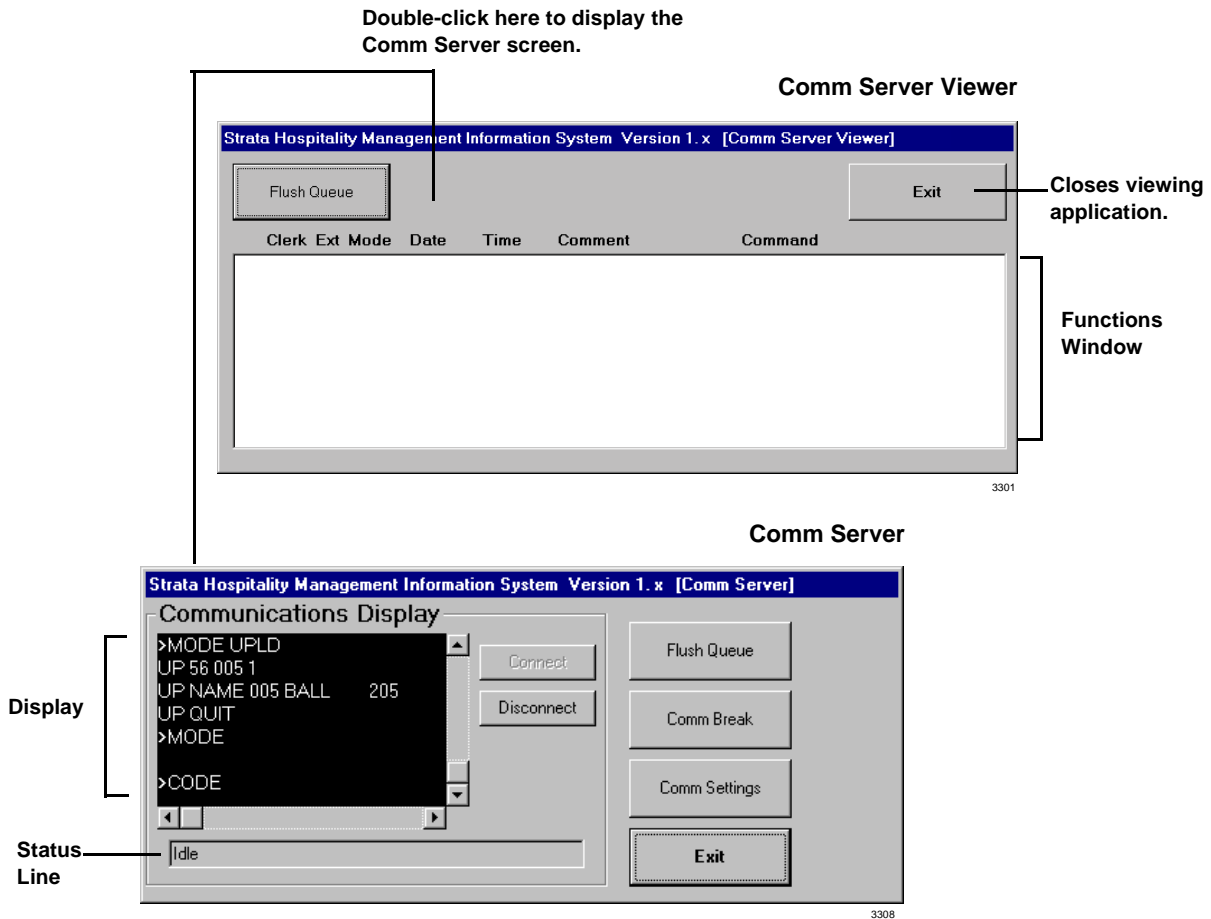

Figure 15-13 Comm Server Viewer/Comm Server Screens
These screens (see Figure 15-13) verify the following functions are working properly: check-in/check-out and the Enable DND, Disable DND, and Change Phone Service buttons on the Control/Status tab. See Table 15-4 on Page 15-23 for screen field descriptions.
1. From the Comm Server Viewer screen, double-click the area to the right of Flush Queue (see Figure 15-13 on Page 15-23).